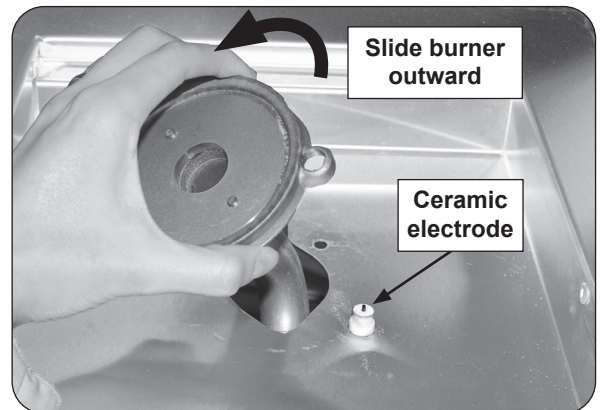

Fig. 40-2 Remove burner
5. Carefully lift the burner up and out, clearing the ceramic electrode (see Fig. 40-2), and pulling the burner tube away from the orifice located on the left side of the unit.